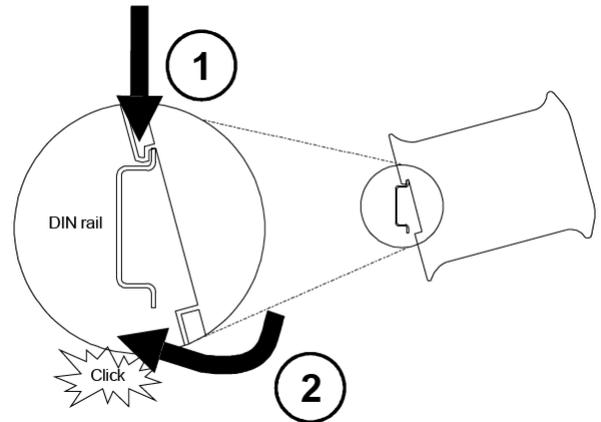

Figure 2-1: DIN rail mounting
| Figure 2-1: DIN rail mounting.....   | 9  |
To mount the module on a DIN rail, slot the top part of the EGCP2-GCP-LSIM into the upper guide of the rail (1) and lower the enclosure until the bottom of the red hook clicks into place (2) (refer to Figure 2-1).